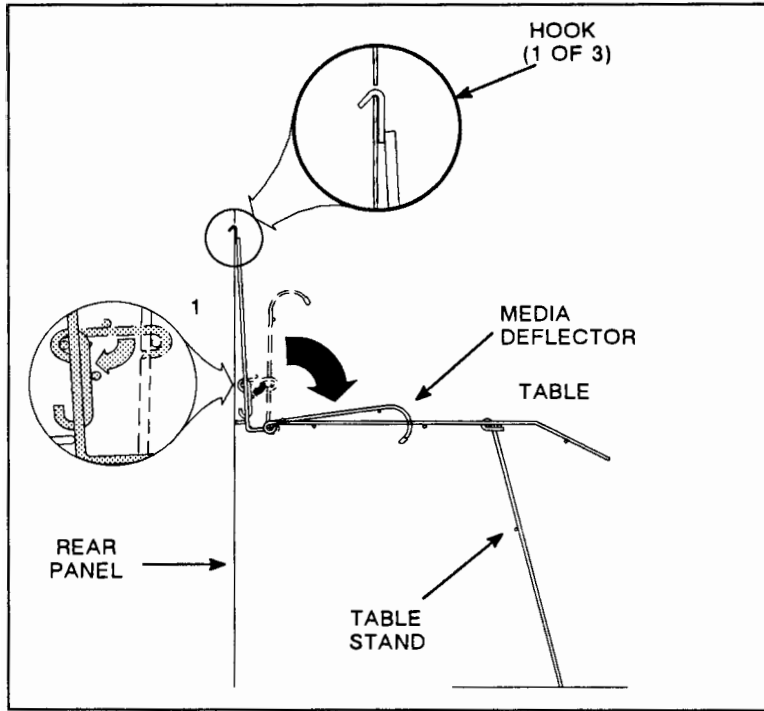

Figure 2-13. Stacker Installation
- m. Install the media deflector by inserting the curved wire ends in the holes provided on top and at either end of the rear panel. The appearance of the media deflector after installation is shown in Figure 2-13.
- a. Hang the stacker against the rear panel of the plotter by inserting the three hooks provided into the three center slots at the top of the rear panel. See Figure 2-13.